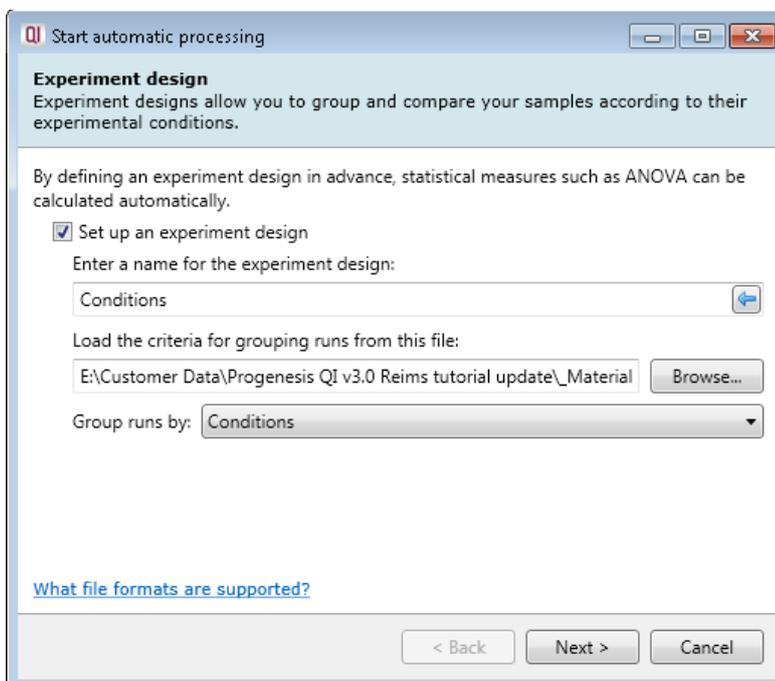

Figure 8: Selecting an experiment design file (in this case, the csv file supplied with the demonstration set).
3. If you wish, define an experimental design for discriminating between your sample groups that the 'burns' are derived from (Figure 8). If you do not create a grouping now, you can do so later.